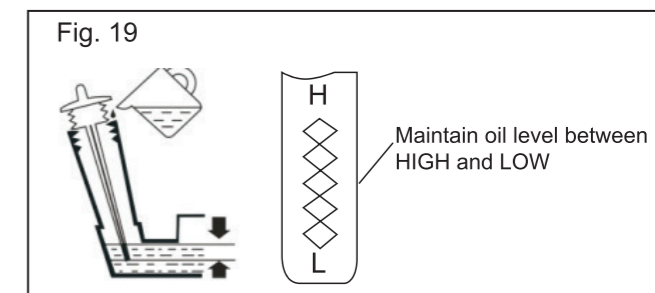

Fig.19
3. The oil level shall be between the marks "HIGH" and "LOW". See Fig.19.
4. If necessary fill with oil up to the FULL mark. See Fig.19.